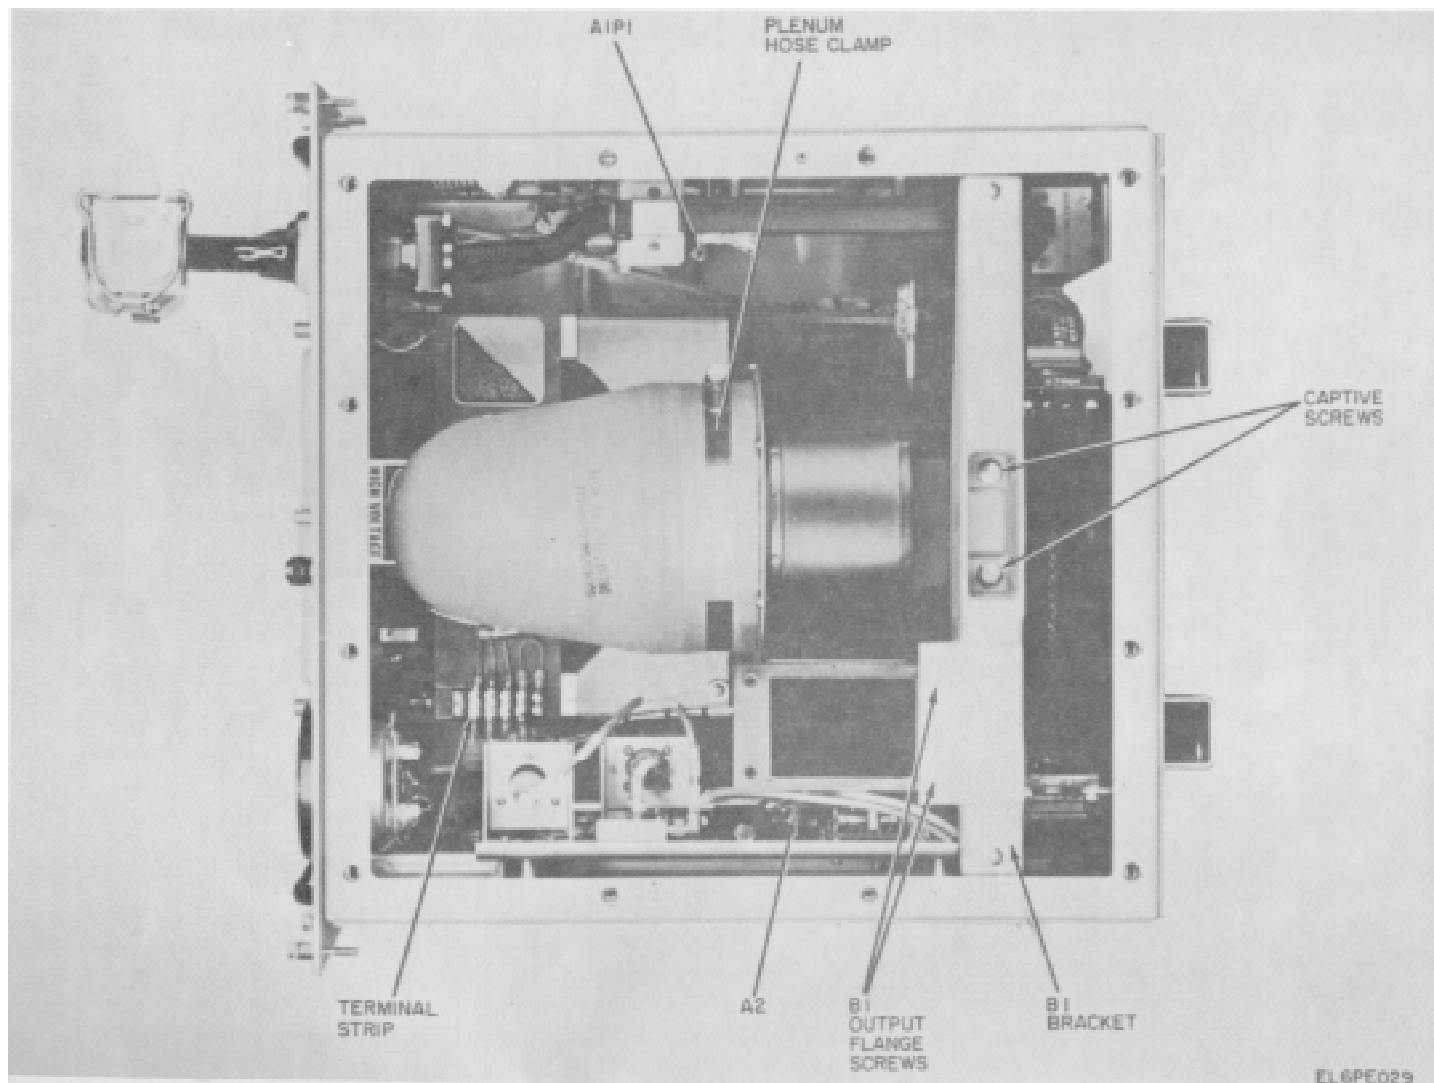

Figure 5-3. Power Amplifier, Top Access Opening. Removal Items.
(2) On the power amplifier (PA), unlock the quick disconnect clamp securing the PA SHF OUT waveguide flange to the shelter waveguide flange and free the mated flanges.
(3) Remove the cables at the SHF IN and SHF TEST OUT connectors.
(4) Loosen the eight captive screws on the front panel of the PA.
(5) Pull on the two handles to extend the PA from the rack.
(6) Loosen the twelve 1/4-turn fasteners which secure the top cover and remove the cover.
(7) Remove module connector P1 from chassis cable connector J5 (fig. 5-3).
- (9) Loosen the twelve 1/4-turn fasteners which secure the top cover.
- (10) Remove the top cover.
- (11) Loosen the thirteen 1/4-turn fasteners which secure the front access cover.
- (12) Remove the front access cover.
- (13) Through the top access and front access openings, loosen the screw on each of the hose clamps which secure the flexible plenum to the blower and klystron (fig. 5-3 and 5-7).
- (14) Remove the flexible plenum.
- (18) Remove the three blower power wires from the terminal board.
- (19) Remove the screw from the cable clamp holding the blower cable to the klystron support.
(20) On the blower mounting bracket (through the top opening) loosen the two captive screws down in the bracket well (fig. 5-3).
(21) Remove the two flathead screws securing the bracket to the blower output flange (fig. 5-3).
(22) At the left and right ends of the bracket remove the screws securing the bracket to the chassis.
(23) Note the orientation of the bracket and then remove it.
(24) On the rear panel of the PA remove the four screws that secure the blower to the chassis.
(25) Check that the blower power wires are free of any obstructions. Remove the blower through the top of the PA.